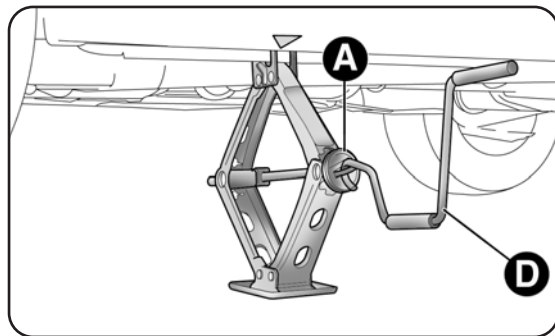
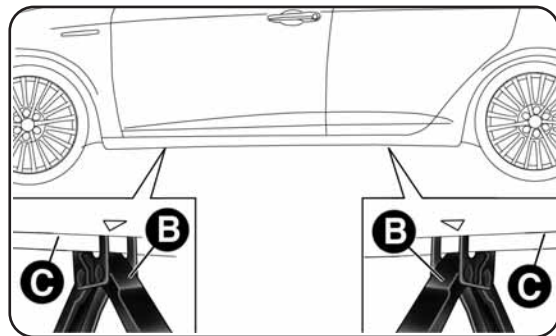

fig. 116
fig. 117
- operate the device A-fig. 116 so as to extend the jack, until the upper part B-fig. 117 is inserted correctly inside the device C;
- fit the handle D-fig. 116 in the seat in device A, operate the jack and lift the car until the wheel to be changed is several centimetres off the ground;
- operate jack handle D-fig. 116 to lower the car. Then extract the jack;